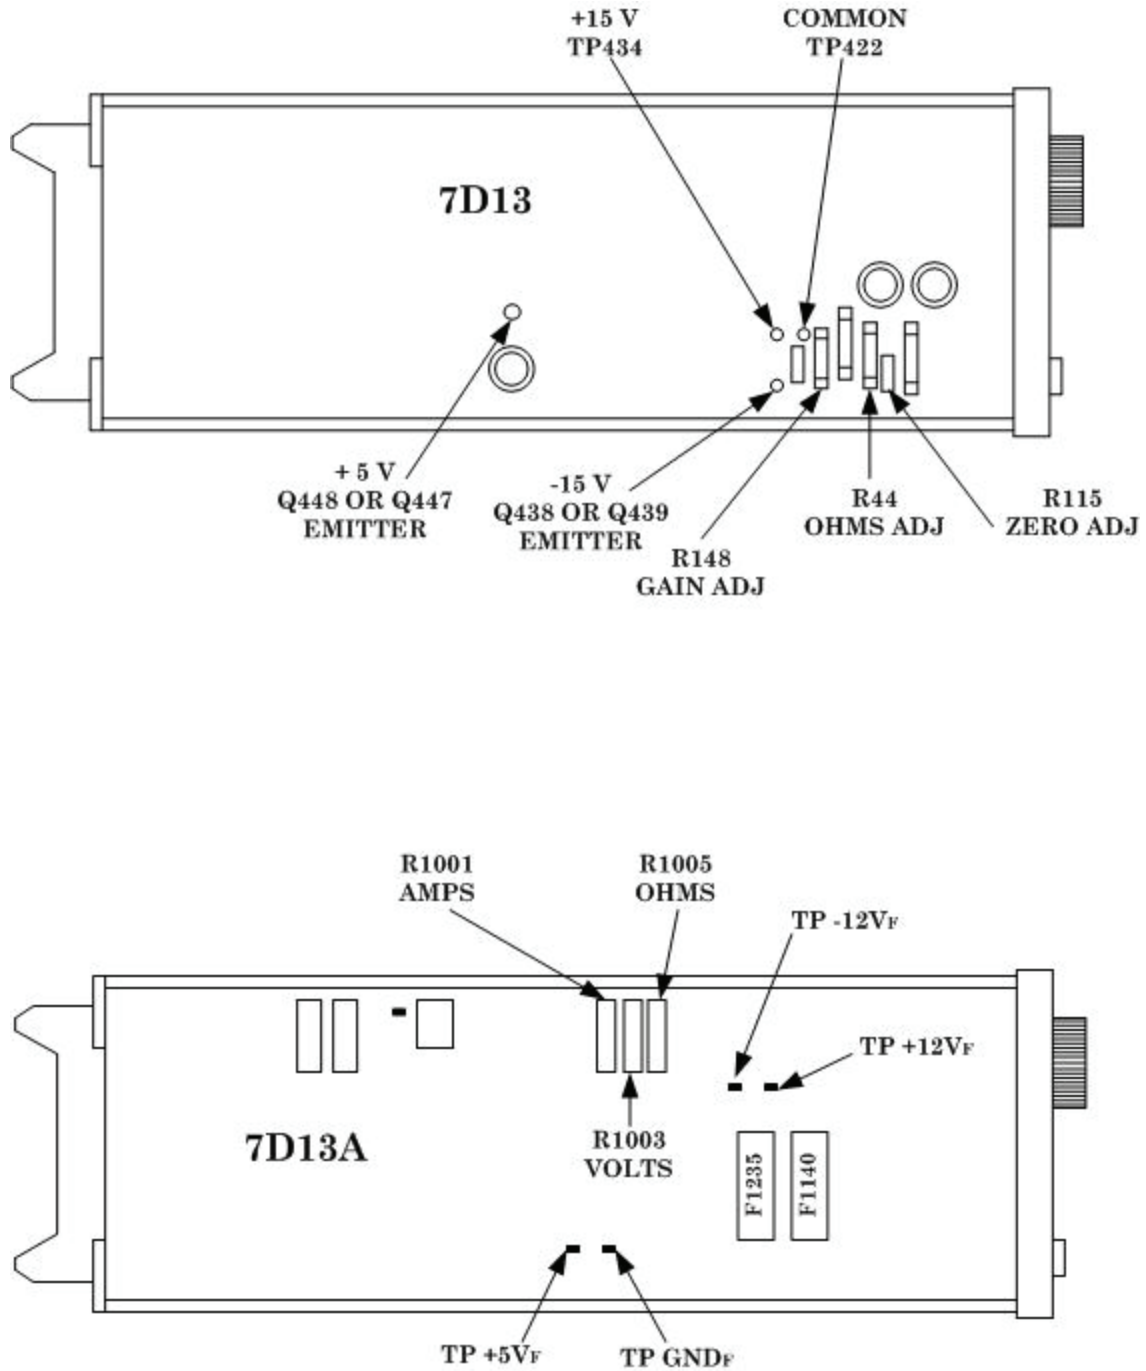

Figure 1. Left side view - adjustments and test points.
- i. Adjust R115 **ZERO ADJ** (fig. 1) to obtain indicator oscilloscope readout display of 0.000. Best adjustment is obtained when readout display just changes from -0.000 to +0.000.
(1) Adjust calibrator for 2.0000 volts.
(2) Connect frequency counter between TP206 (located near center of circuit board assembly) and ground. If frequency counter does not indicate between 79.5 and 80.5 kHz, adjust R203 (located adjacent to TP206) to obtain an indication of 80 kHz. Remove frequency counter connection.
(3) Adjust R148 GAIN ADJ (7D13) R1003 VOLTS (7D13A) (fig. 1) to obtain indicator oscilloscope readout display of 2.000 volts (R).
(4) Adjust calibrator for -2.0000 volts.
(5) Adjust R148 GAIN ADJ (7D13) R1003 VOLTS (7D13A) (fig. 1) to obtain indicator oscilloscope readout display of -2.000 volts.
(6) Repeat (1) and (3) through (5) above for best compromise between positive and negative 2.000 volts.
- (1) Set calibrator output to 2.00 mA and adjust R1001 AMPS (fig. 1) for a 2.000 mA indication on indicator oscilloscope.
(1) Set calibrator for 19.000 k ohms.
(2) Adjust R44 OHMS ADJ (7D13) R1005 OHMS (7D13A) (fig. 1) to obtain indicator oscilloscope readout display of 19.00 k ohms (R).
(1) Connect multimeter between floating power supply COMMON TP422 (fig. 1) and each test point listed in table 6. Multimeter will indicate within limits specified.
(2) Connect multimeter between floating power supply common, TP GND_F (fig. 1) and each test point listed in table 7. Multimeter will indicate within limits specified.